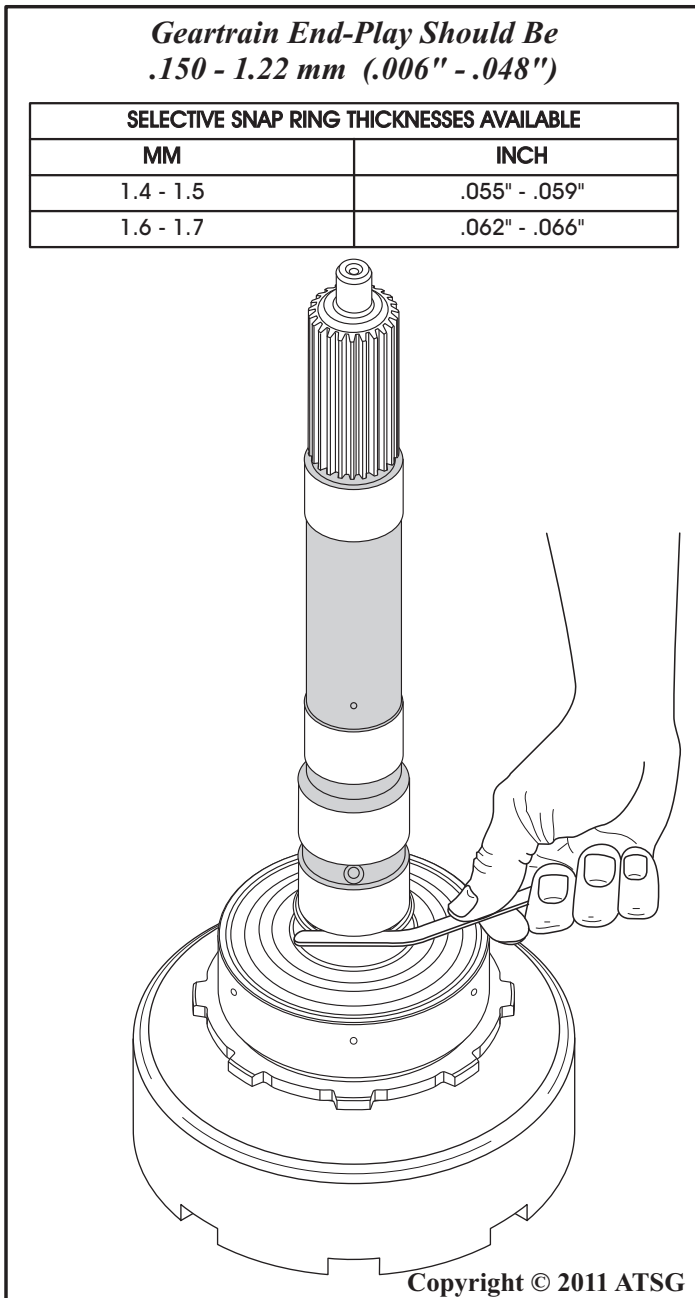

Figure 144
23. Turn the geartrain assembly over and stand it up on front of the intermediate shaft, as shown in Figure 144, so that planetary gears are resting on the selective snap ring.
24. Measure with feeler gauge between shoulder of intermediate shaft and rear ring gear support, as shown in Figure 144.
25. Change the selective snap ring as necessary to obtain the proper clearance (See Figure 144).